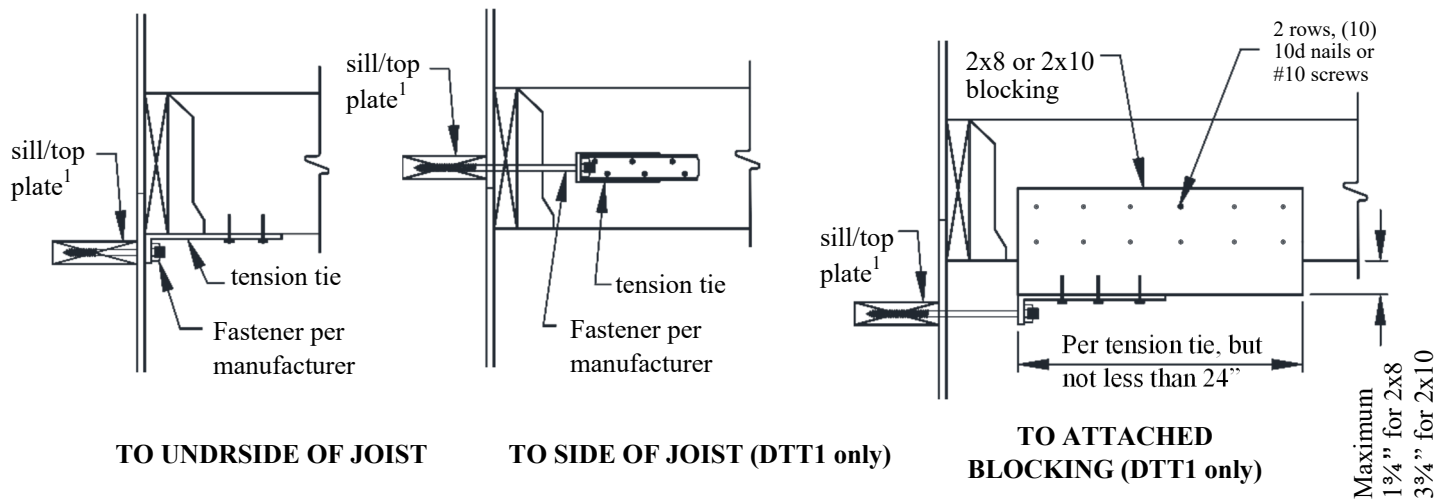

Figure 27: Method 1 Tension Tie Bracing
- Tension-ties shall be attached to the joists and exterior wall per the manufacturer's instructions with specified fasteners as shown in FIGURE 27. Fasteners shall penetrate a minimum of 3 inches into the sill plate or top plate of a wood framed wall.